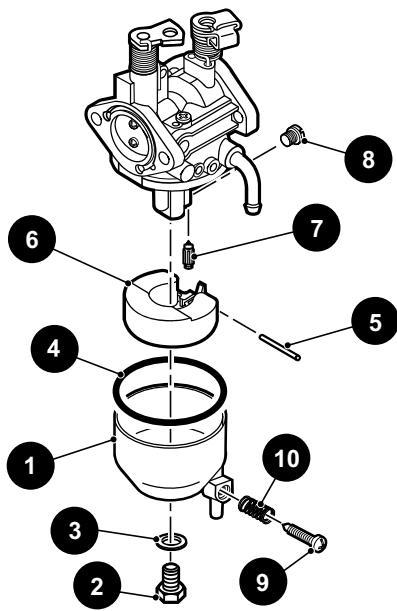

Figure 9 Carburetor Disassembly
Remove the float bowl (1) by removing the retaining screw (2) and washer (3) (Figure 9).
Replace the carburetor in reverse order of removal. Use a new gasket to ensure sealing of carburetor. Tighten hardware to torque value specified below (Figure 9).